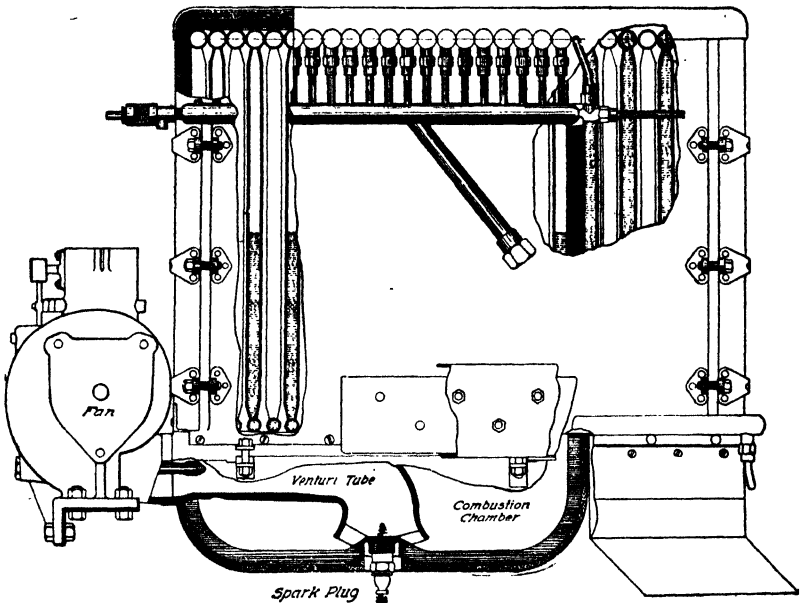
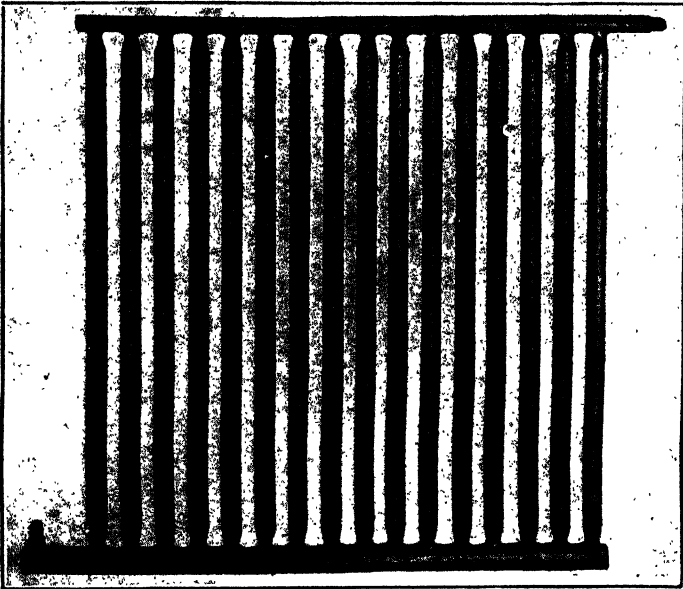
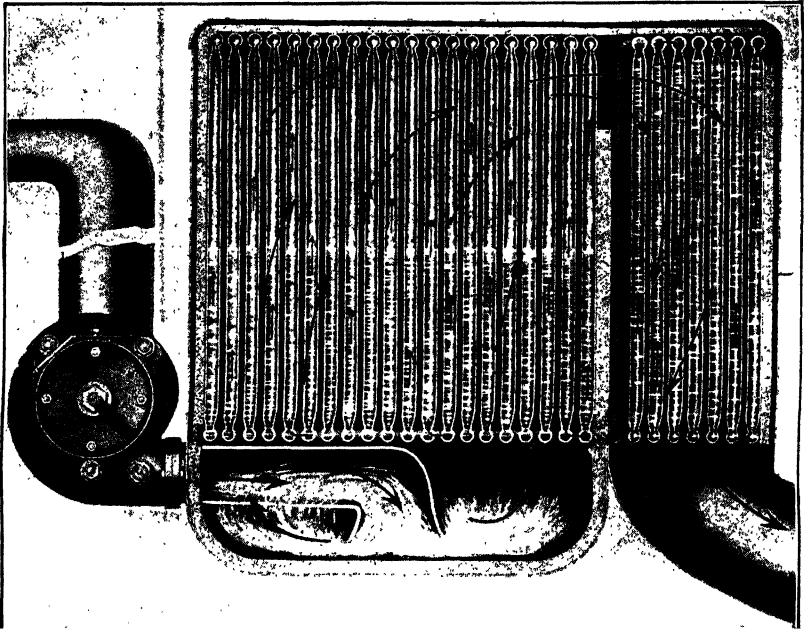

Fig. 35. Section through Combustion Chamber and Boiler of Doble Car
Fig. 40. One Section of Doble Boiler
Fig. 41. Section through Doble Boiler, Showing Combustion Below and Economizer Section at Right
The combustion chamber, Fig. 35, is completely closed and lined with a highly refractory material. As soon as the combustion has been started, the electric spark is automatically shut off, and the burning of the gas is continuous until it is stopped by the action of the automatic steam control, as described later. The lining of the chamber not only has the property of resisting high heats, but it holds and gives back the heat so as to assist in completely burning the gases. The combustion chamber is also well illustrated in Fig. 41, page 40.
arranged in rows, which are really separate sections, Fig. 40. There are 28 of these sections in the generator part of the boiler. The tubes are made from seamless drawn-steel tubing of about  $\frac{1}{2}$ -inch diameter and are swaged down to a diameter of about  $\frac{3}{8}$  inch at the ends. These ends are welded into the top and bottom headers, thus making each section a continuous piece of steel.
arrangement of all these sections is clearly shown in Fig. 41, the view being cut across each of the 36 sections, similar to Fig. 40. The picture does not show all the details but has been arranged to give an idea of the general layout and the direction of flow of the hot gases and of the water and steam. The boiler sections are completely covered over, except at the bottom, by a  $\frac{1}{2}$ -inch wall of heat-resisting and insulating Kieselguhr material. Over this is a planished iron jacket.
*In Fig. 41, the direction of flow of the hot gases of combustion is shown by the heavy arrows, while the flow of the water and steam is indicated by the small arrows. From the combustion chamber at the bottom of the boiler, the gases pass upward and then over the top of the fire wall between the generator proper and the economizer. Here they turn and pass downward in order to escape through the*